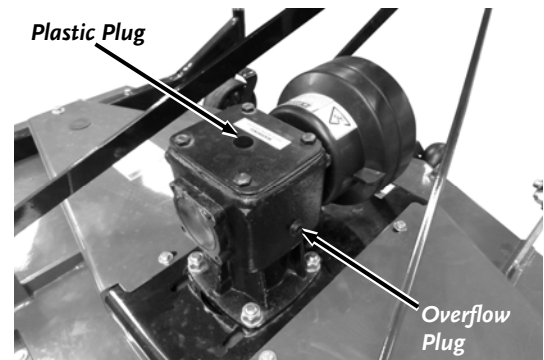

Figure 18
1. Remove the plastic Plug that is in the top of the Gearbox using a Flat Head Screwdriver (**Figure 18**).